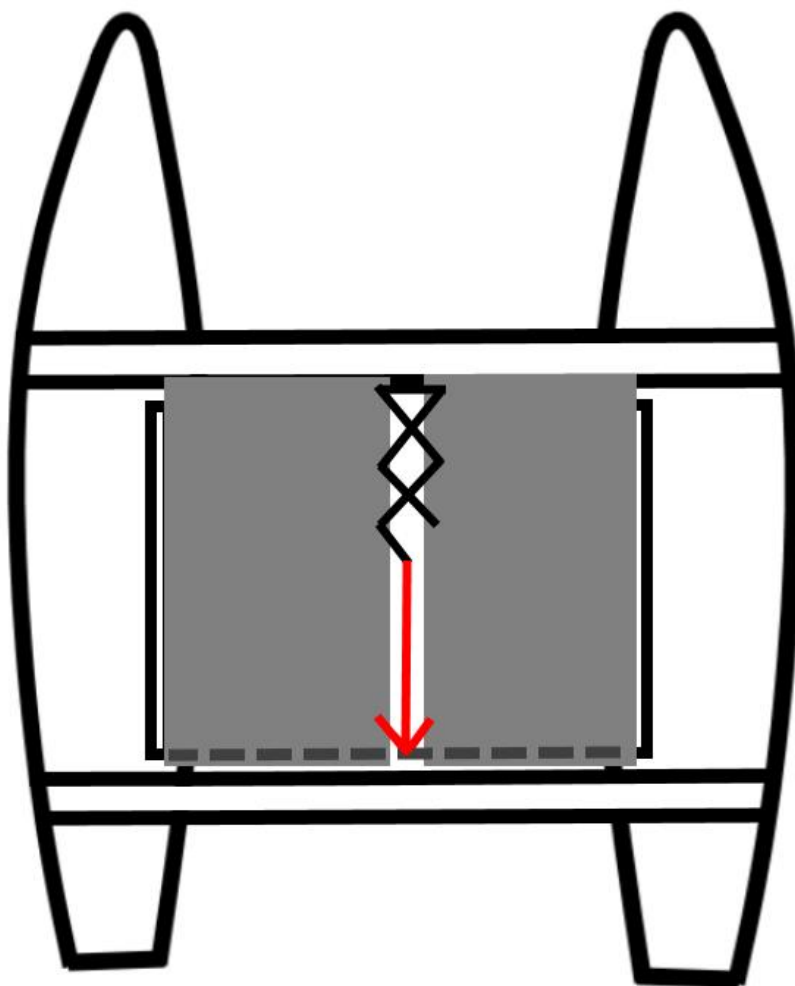

FIGURE 4: Lace center portion of trampoline halves – from fore to aft.
Step 5: *Center Lacing the Trampoline:* Tie a Bowline knot in the forwardmost grommet of either of the trampoline halves. Continue lacing trampoline halves together (from fore to aft) using a zig zag pattern until you have reached the very last grommet in the aft of the trampoline halves. Tie off the final grommet with a few half hitch knots. See **Figure 4**.